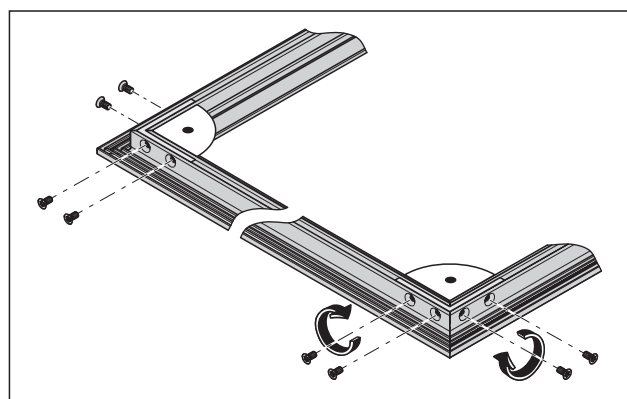

Fig. 29 Fix the brackets in the base profile for the door frame
4. Fix the brackets with the M5x10 screws in the base profile for the door frame using a hexagon socket wrench (Fig. 29).